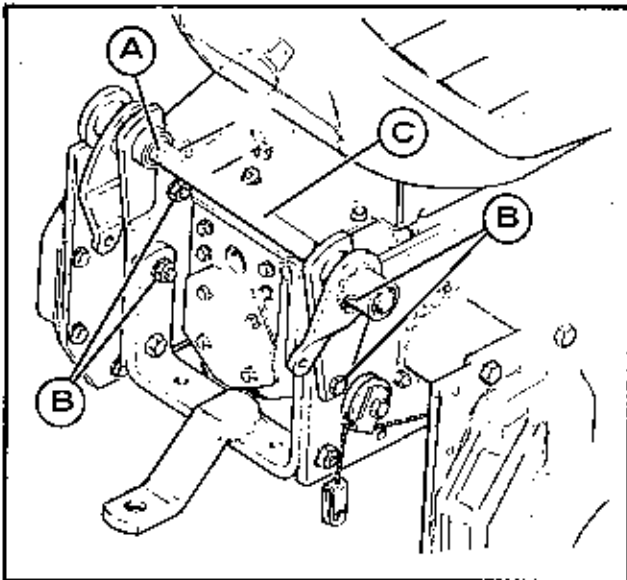

FIGURE 1
1. See figure 1. Remove the spring clip and pin at (A) to unhook the rod end of the hydraulic cylinder from the lift arm assembly.
2. Remove the 4 nuts, lock washers and capscrews at (B) and remove the lift arm assembly (C) from the tractor.